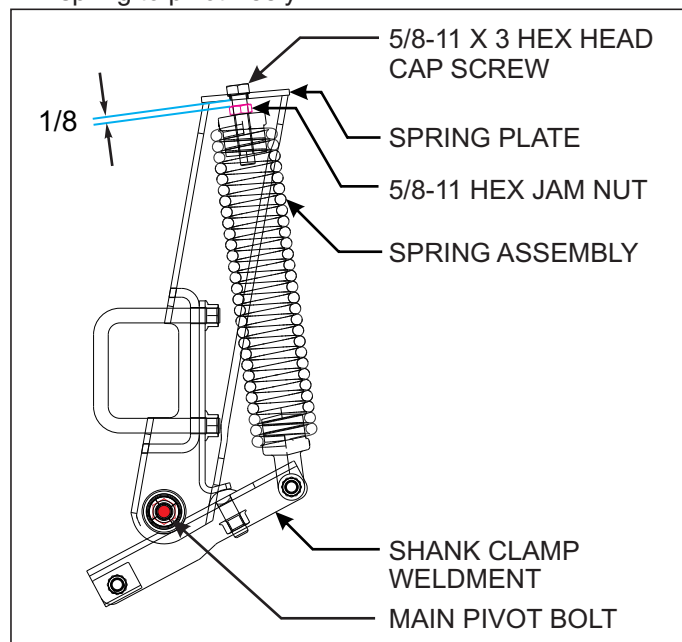

Figure 4-14: Spring Adjustment
3. When adjusting or assembling the spring assembly, tighten the upper spring bolt, but leave approximately 1/8" gap above the spring jam nut **See Figure 4-14**. This will leave the proper clearance for the spring to pivot. Lock the jam nut against the top of the spring, not the top of the mount. Likewise, do not over tighten the lower spring cross bolt. Remove any slack in the bolt, but still allow the lower spring to pivot freely.